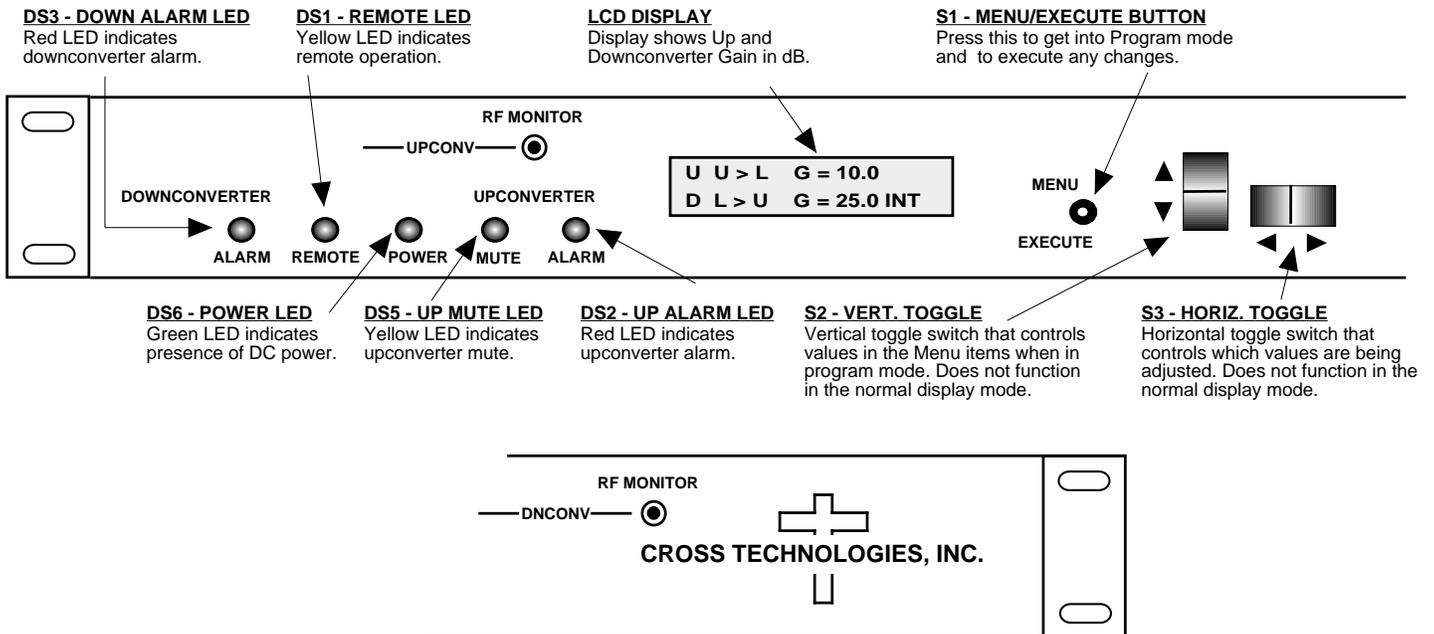

Figure 2.2 Model 2017-14 Front Panel Controls and Indicators
Figure 2.2 shows the input and output connectors on the rear panel.
- 4.) Be sure DS6 (green, DC Power) is on and DS2 (red, Alarm) is off (Figure 2.2).
2.5.1 Functions - This section describes operation of the front panel controls. There are three operator switches, the LCD display and alarm indicator LEDs. All functions for the equipment are controlled by these components. The functions are (See Figure 2.2):
Alarm indications appear on the LEDs (see figure 2.2).